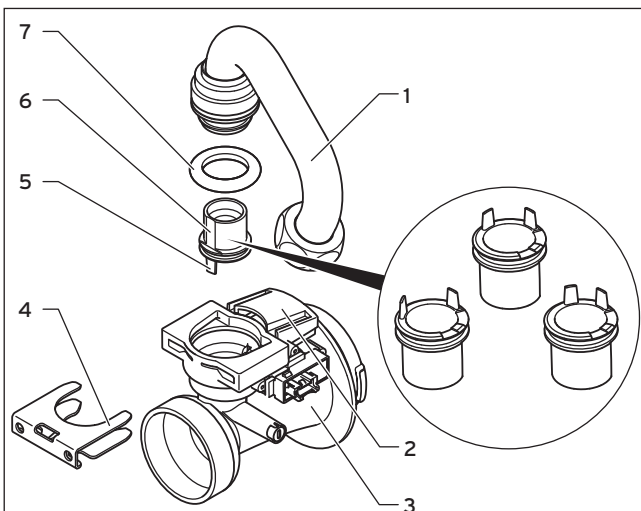

Fig. 2.2 Dismantling the gas connection pipe
- Dismantle the gas connection pipe (1, fig. 2.2) from the venturi (3) by removing the clamp (4) and pulling the gas connection pipe vertically. Dispose of the seal (7).
- Remove the gas nozzle (6) straight ahead and dispose.
When installing the gas nozzles, ensure their correct alignment using the position markers on the upper side of the venturi and the locating pins (5, fig. 2.2) on the underside of the gas nozzle.